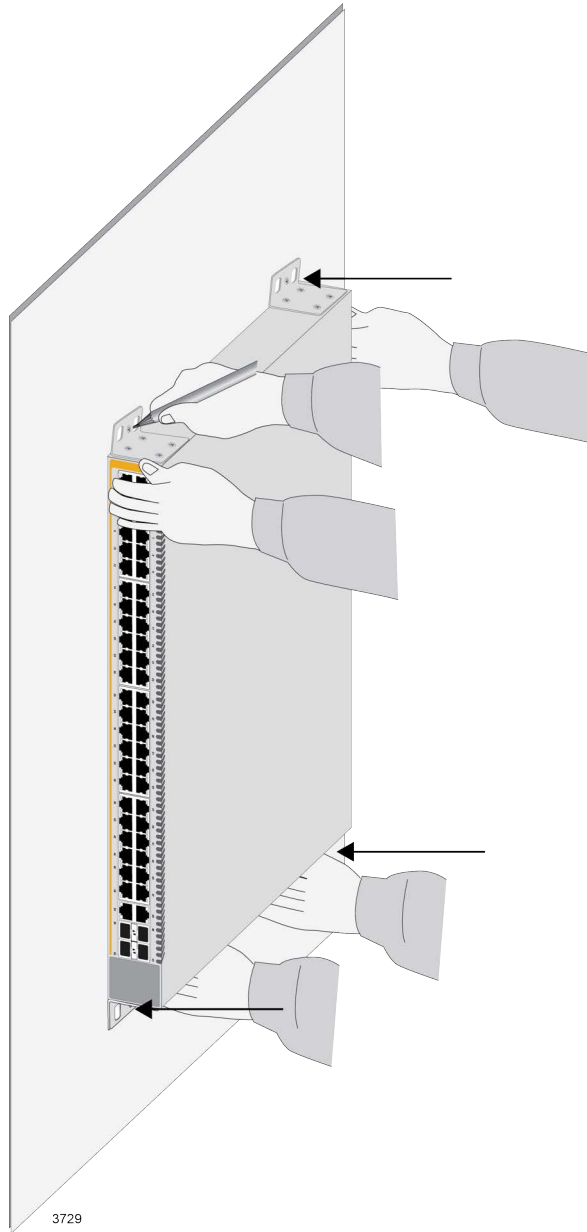

Figure 53. Marking the Locations of the Bracket Holes on a Concrete Wall
3. Have two people hold the switch on the concrete wall at the selected location for the device while you use a pencil or pen to mark the wall with the locations of the four screw holes in the four brackets. Refer to Figure 53 on page 114.